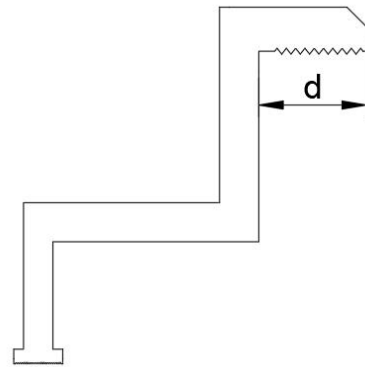

Fig. 8 Cross section diagram of fringe clamp
- ⑨ To prevent modules from coming off the fixed device after installation, it is suggested to choose fringe and mid clamps and make contact with the A side of the frame with groove patterns. Suggest to have 9 patterns with a space between 2 adjacent patterns of 1.2mm and a depth of 0.6mm, as shown in figure 8.